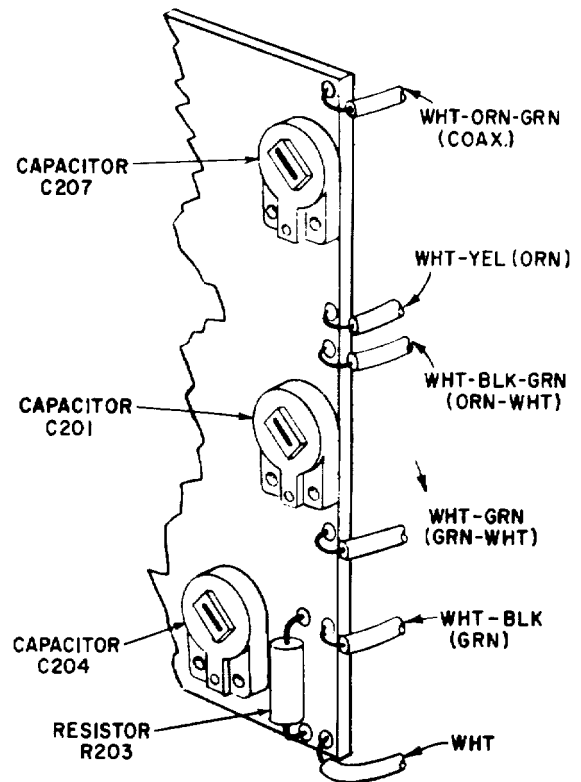

Figure 5-8. Wiring Between Switch S202 and Etched Circuit Board A201
(9) At the grounded terminal of the tie lug strip, disconnect black wire from the cable.
(10) Disconnect the white, white/black, white/black/green, white,/yellow, and the white/orange/green wires from etched circuit board A201. This wiring is indicated in figure 5-8, which also shows the corresponding colors for Model AN/USM-140C.
(37) Dress the five wires identified above so they are in sequence for connecting to circuit board A201 (see figure 5-8).
(38) Remount assembly of circuit boards A201 and A203 on chassis. Use two 6-32 x 3/4 inch mounting screws and #6 internal-tooth lockwasher under each screw head.
(39) Refer to figure 5-8 and connect five wires identified in step 37 to circuit board A201.
(40) Replace but do not tighten two 6-32 x 3/8 inch mounting screws for switch S202 rear mounting bracket. Place 6 x 3/8 inch flat washer under each screw head.
(41) Tighten front-panel mounting nut.
(42) Be sure no wires are pinched under switch S202 rear mounting bracket and tighten mounting bracket screws.
(43) Remount the X100 Gain control R223. Place internal-tooth lockwasher under mounting nut.